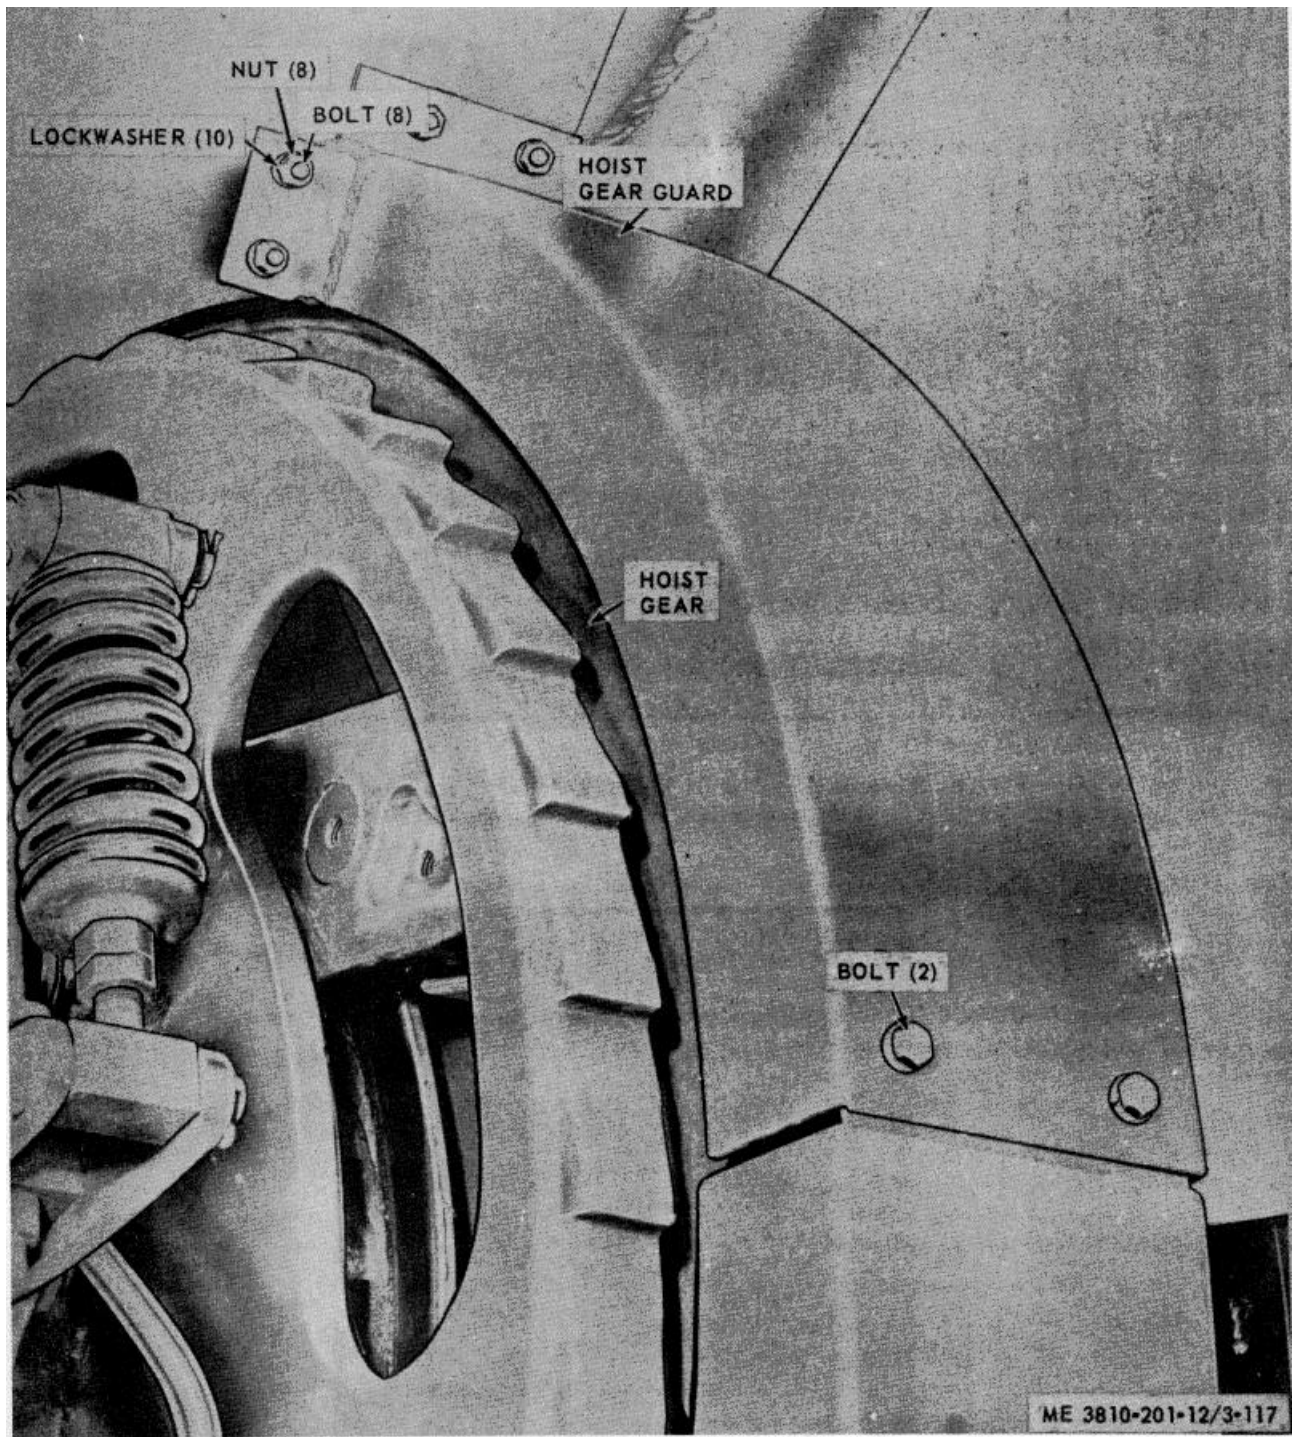

Figure 3-117. Hoist gear guard, removal and installation.
c. Hoist Gear Guard, Removal and Installation. Refer to figure 3-117 and remove hoist gear guard. Install in reverse order.